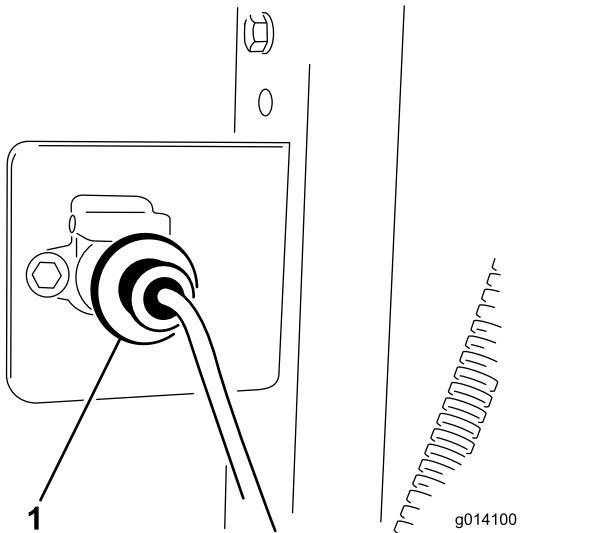

Figure 10
3. Secure the wire harness socket to the bracket with 2 bolts (1/4 x 1 inch) and nuts (Figure 10).
5. Attach the base unit wire harness to the tow vehicle wire harness (Figure 10). The connector is located among the hydraulic hose attached to the tow vehicle.